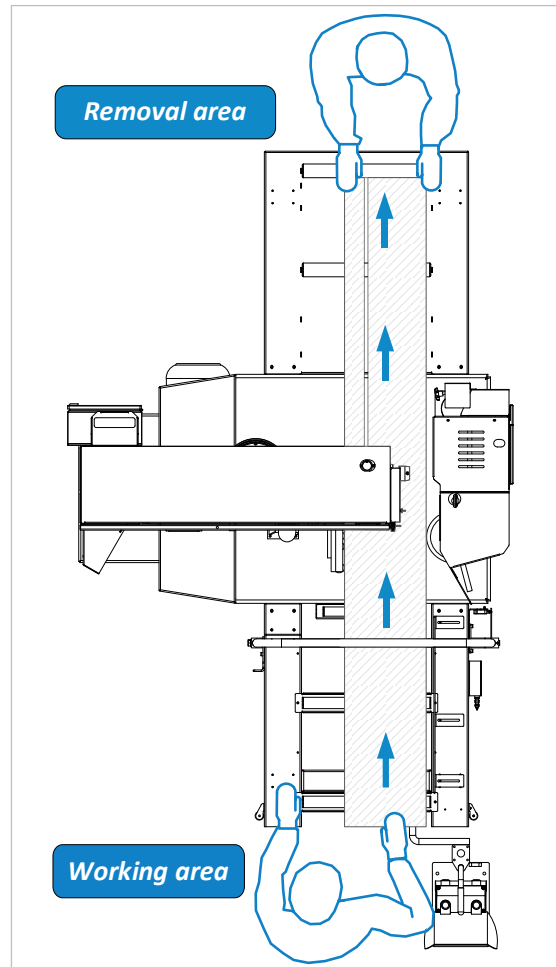

Figure 14: Working positions on the band resaw
- Choose a suitable location for the machine and consider the working positions shown in ⇒ Figure 14.
- The bandsaw is always to be operated from the position designated as the “**working area**” (see lower position in ⇒ Figure 14).
- Another working position is provided at the take-off roller table for the take-off of the workpieces for a supplementary assistant. It is designated as the “**removal area**” (see upper position in ⇒ Figure 14). This is not absolutely necessary for the intended use.